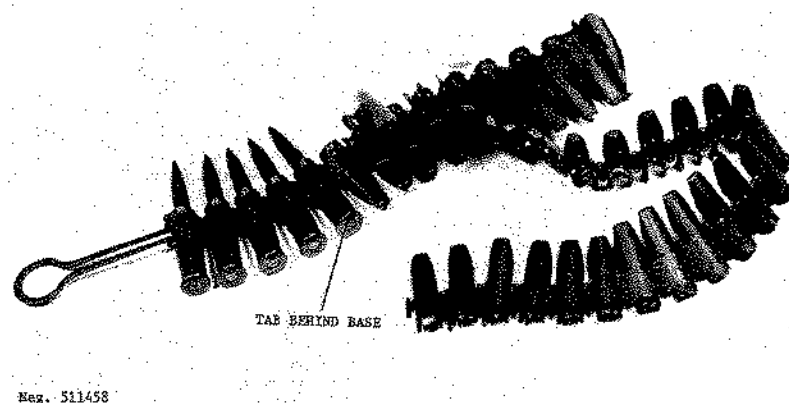

Figure 159. Type 67 feed belt.
a. Load the feed belt by placing a cartridge over the link opening, so that the rim of the cartridge is just ahead of the turned down tab on the link. Press the cartridge into the link; the tab must be behind the cartridge base (fig 159).